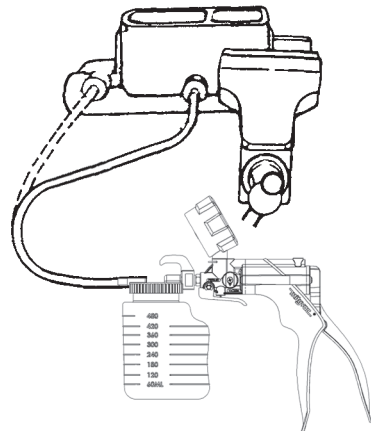

FIGURE 19: BENCH BLEEDING
- 3) Remove a plug from the master cylinder and attach the proper adapter to this master cylinder outlet port. Connect the pump tube to the reservoir jar and the jar tube to the adapter (FIGURE 19).